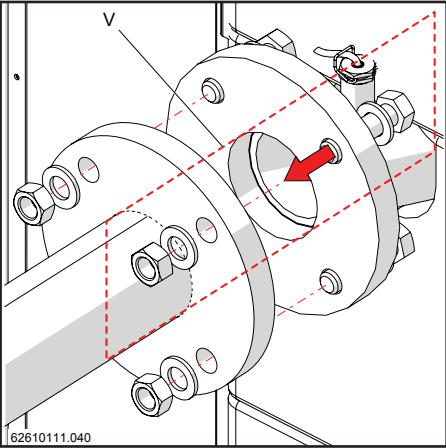

Figure 15-47
- 8.- Insert in the direction shown in figure 15-47, the bolts "V" (not supplied at present in the kit) for plumbing.